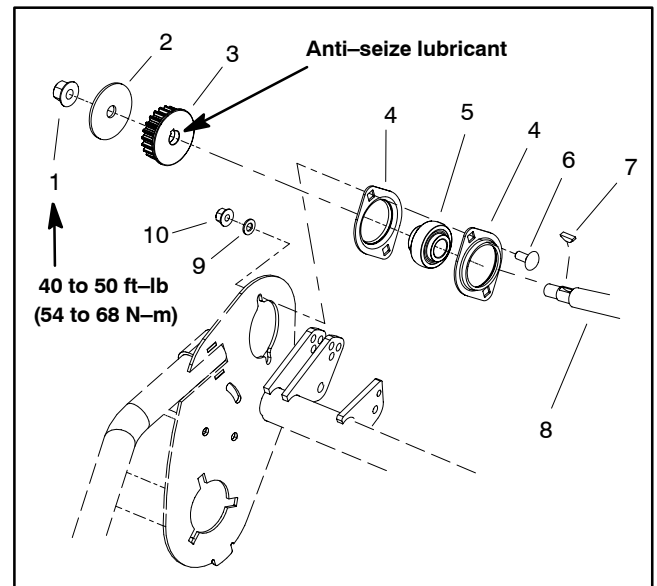

Figure 38
6. Remove flange nut that secures traction drive pulley (Fig. 38) on both sides of mower. Remove pulley washer, pulley and woodruff key from both sides.
7. Loosen set screws that secure extended race bearings to gearbox axles (Fig. 38).
8. Remove carriage bolts, flange nuts and flat washers that retain bearing flangettes to frame (Fig. 38). Slide flangettes and bearings toward gearbox.
10. Apply anti-seize lubricant to bores of traction drive pulleys. Install woodruff keys and place traction drive pulleys onto gearbox axles (Fig. 38). Secure pulleys to axles with pulley washers and flange nuts. Torque flange nuts from 40 to 50 ft-lb (54 to 68 N-m).